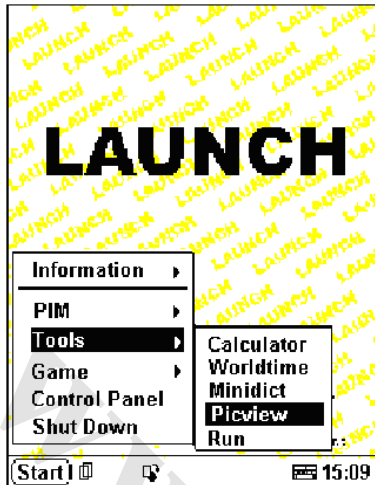

Figure 4-13
- 2) Select 'Tools' in the pop-up menu. (See Figure 4-13)